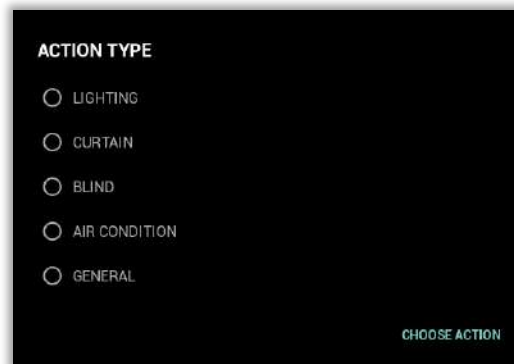

Fig. 37 : Create Scenario – Add Scenario Process Step 3
- 4 Alarm detectors defined by this touch button are listed. Detectors from this list can be turned on or off. (Fig. 37)